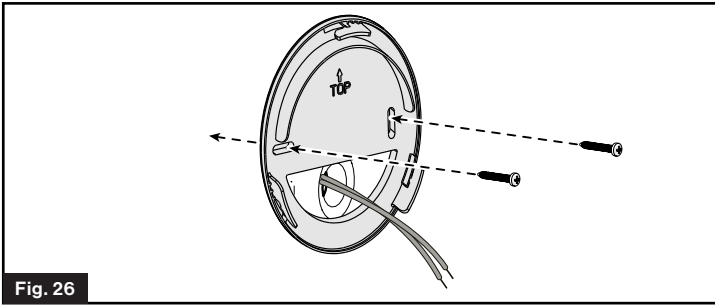

Fig. 26
1. Install the back cover of the wall controller over the $\frac{3}{4}$ " hole. Make sure the arrow mark is facing up. Fix the back cover on the wall using 2 - #8 (min 1") pan head screws (not provided). (Fig. 26)